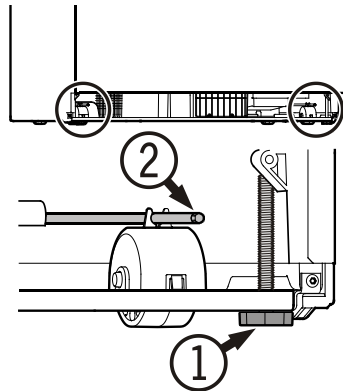

Figure 16
Leveling the Appliance - Figure 16
To prevent the appliance from tipping forward the leveling feet ① (Figure 16) must have contact with the floor.
2. Remove the blue protection film from the dust filter provided and insert the filter into its opening in the toe kick area as shown in **Figure 16**. Attach the filter at the bottom, press down the button and click into place.